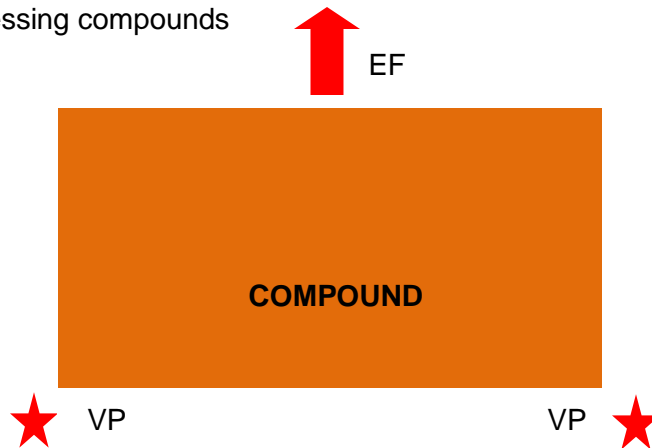

Figure 5. IED placement in potential fire positions
3. Repeat clearance procedure above for each building and room entered within a compound. ECM is to be carried by clearance team element to maximize spacing and reduce overall threat. Consider using IED dogs for the Secure and Isolation phases, as well as for the search of cordon positions and launch points. Figure 5 shows likely Vulnerable Points for fire positions before accessing compounds